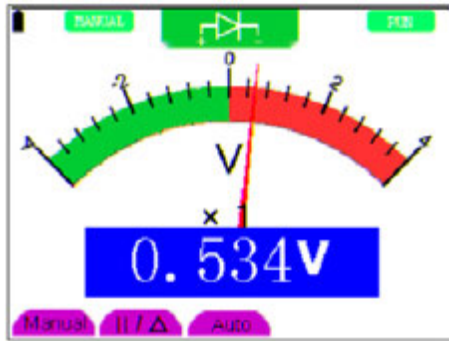

Figure 35: Diode Measurement
4. Connect the red and black leads to the resistor and the diode resistor readings are displayed on the screen in **V**. Now, you can see a screen that looks like the following Figure 35.